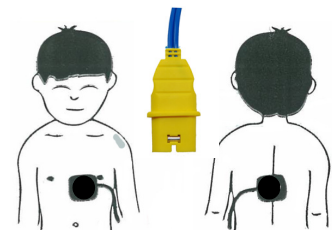

Fig.3.3 Application sites for children less than 25 kg (55 lbs)
1. Clean and dry the application points for the electrodes, see Fig.3.3 Application sites for children less than 25 kg \(55 lbs\). Only clean the skin by vigorously rubbing it with a dry cloth.
2. Apply one electrode on the left of the right nipple as illustrated in Fig.3.3 Application sites for children less than 25 kg \(55 lbs\)
3. Apply the second electrode on the back on the same level as the chest electrode as illustrated in Fig.3.3 Application sites for children less than 25 kg \(55 lbs\).